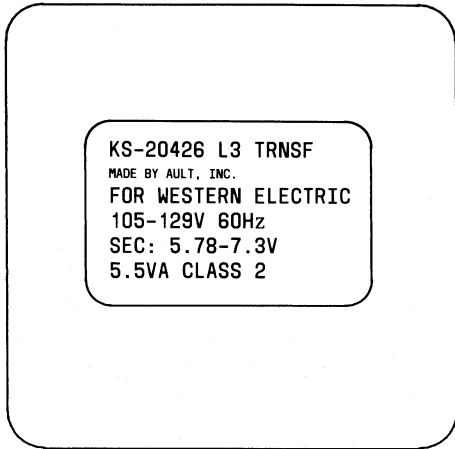

Fig. 11—KS-20426L3 (MD) Transformer Manufactured by AULT, INC.
***Danger: All KS-20426L3 (MD) transformers manufactured by AULT, INC., are being recovered from the field. The transformers should be located and recovered on any customer premises visit (installation, repair modular conversion activity, etc.) and returned without delay to the local Western Electric Service Center. When removing and replacing the KS-20426L3 (MD) (AULT) transformer, the unit SHOULD NOT be unplugged and then plugged back into the associated ac power outlet, since the stability of the transformer could be affected by such action. See Fig. 11 for the manufacturer's identification marking on the transformer. This recovery plan does not apply to AULT, INC.,***